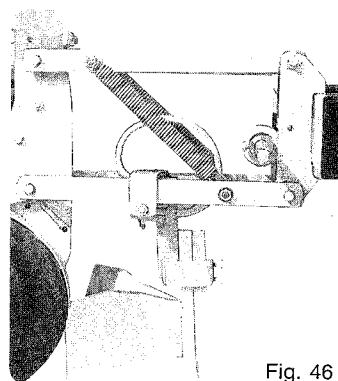

Fig. 46
The function of clod removers ⑫ is to clear the surface of the soil but not to plow a furrow. One use of the front brace of the clod remover is to slice open hard soil and move stones away from the track of the disc opener. They need to be adjusted accordingly. Using them in stony soils may be a problem because they can cause clogging and blocking. In this case it is better to choose an assembly with a flexible support bracket (fig. 46) which is efficient in difficult soil conditions.